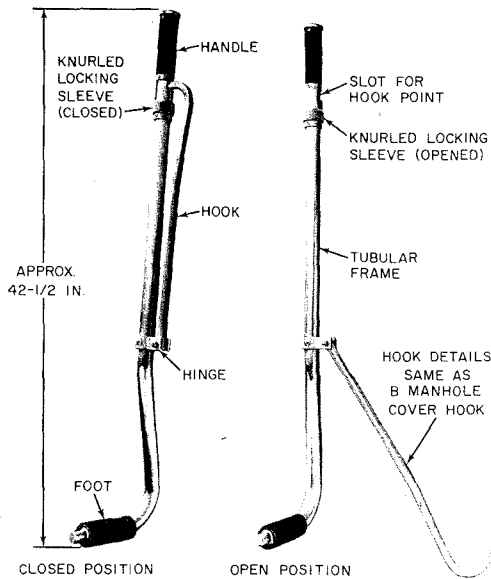

Fig. 8—PTS-49 Manhole Cover Lifter
4.04 PTS-49 Manhole Cover Lifter: The PTS-49 manhole cover lifter is shown in Fig. 8. The open end of the hook can be locked in a safe, covered position for storage.♦